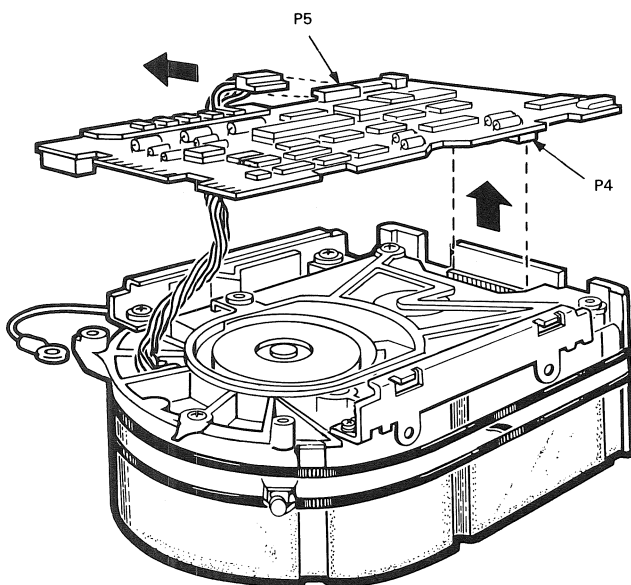

Figure 4-10 Remove the MPCB
6. Lift the MPCB straight up until it clears the chassis. This disconnects the 12-pin fixed plug (P4) at the front end of the drive (see Figure 4-10).
7. Disconnect the 10-pin connector (P5) on the heatsink side of the MPCB, as shown in Figure 4-10.